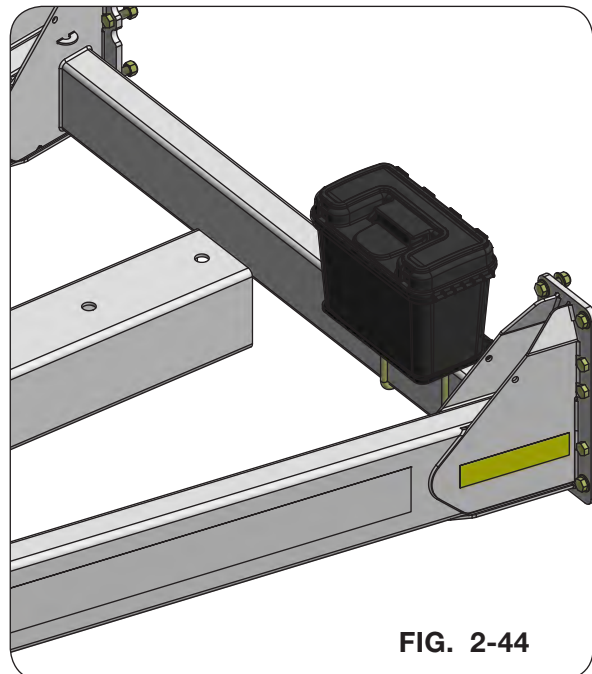

FIG. 2-44
2. Secure the storage box (902456) to the mounting bracket (77400B) with one strap (27741B), two 5/16"-18UNC x 1" capscrews (9390-030), and two 5/16"-18UNC lock nuts (9807) (FIG. 2-44).
- The dimensions on the diagonal tooth leveler bar layouts identify which holes must be used for mounting. The diagonal bars attach to the machine's mounting arms using the 1/2"-13UNC x 3" carriage bolts (9388-110), two square washers (3788B), 1/4" thick flat washers (91069B), 1/2" USS washers (9405-088), and 1/2"-13UNC locknuts (9800) (Fig. 2-44). Often, this mounting hardware will not be assembled to the diagonal bar at the correct location shown by the layouts. Switch mounting hardware to the position shown on Diagonal Tooth One-Bar Layouts in this section.
- Mount the diagonal bar to the MIDDLE hole on the machine's mounting arms (Fig 2-44).